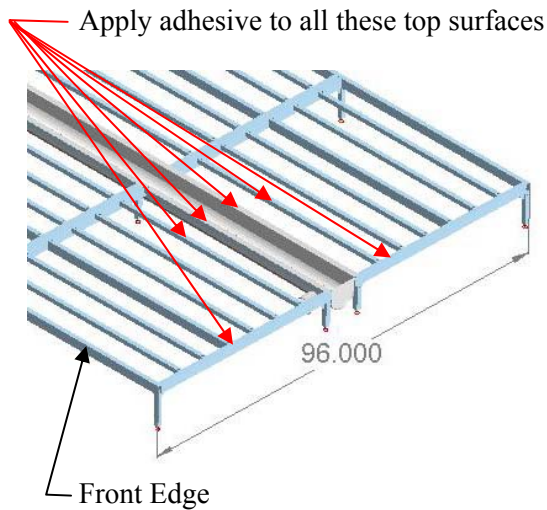

Figure 11
Based on your Double Kennel System on raised floor order, the installer is required to adjust the distance from the front edge of nearest floor to the front edge of the opposite floor before placing the PVC floor panels. For example, on 8FT Double Kennel System on raised floor, the distance should be 96 inches as shown in **(Figure 11)**.
8. After making the final plumbing connections and floor adjustments, prepare to attach the Acrylic PVC floor panels to the open kennel floor frames. Lay the PVC floor panels textured surface side up on the kennel floors to make sure they fit properly, and then remove. Apply a generous bead of adhesive (page 4) around the top surface perimeter and cross members of the floor frames **(Figure 11)**.